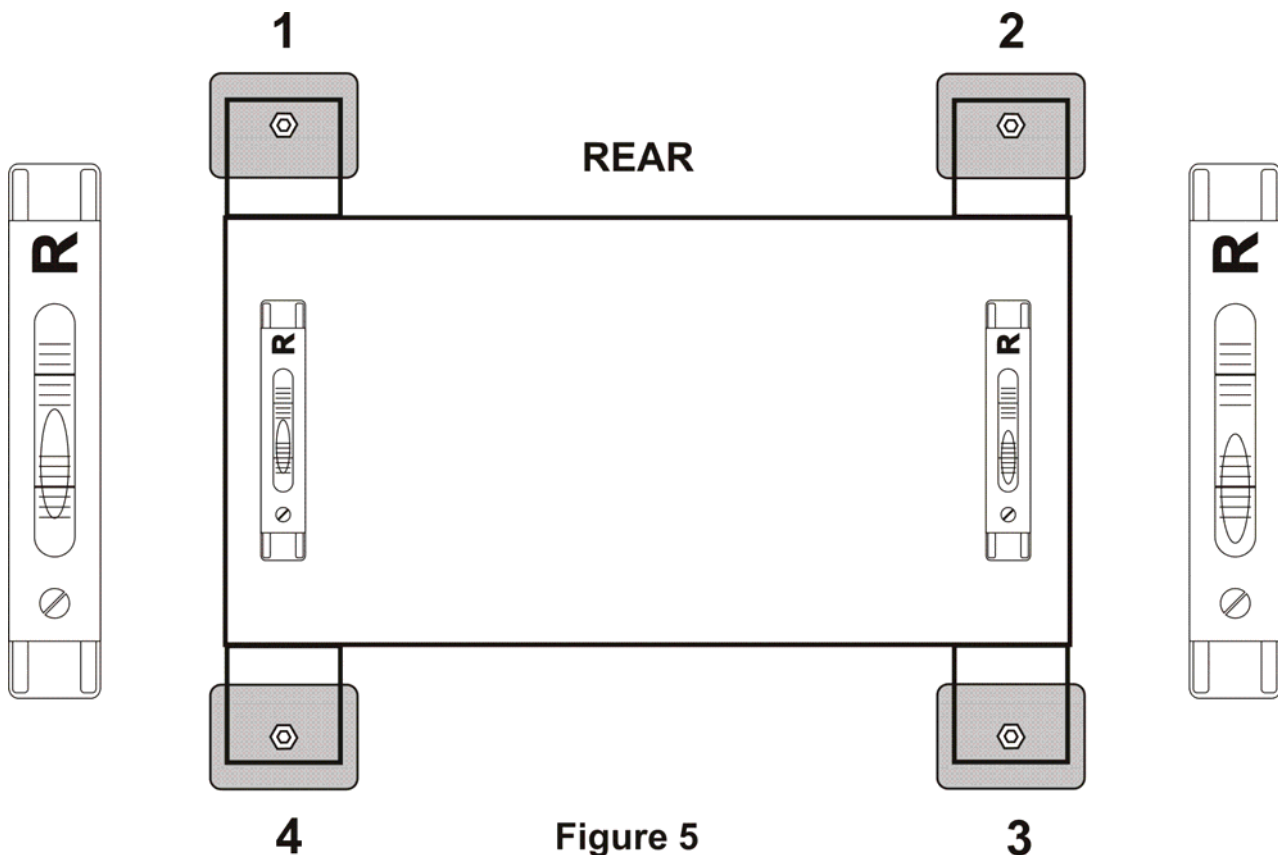

Figure 5
2. If your level condition is as shown in Figure 5, the rear of the press is low. Raise feet 1 & 2, alternately and in small increments, until the press is level at both level locations.